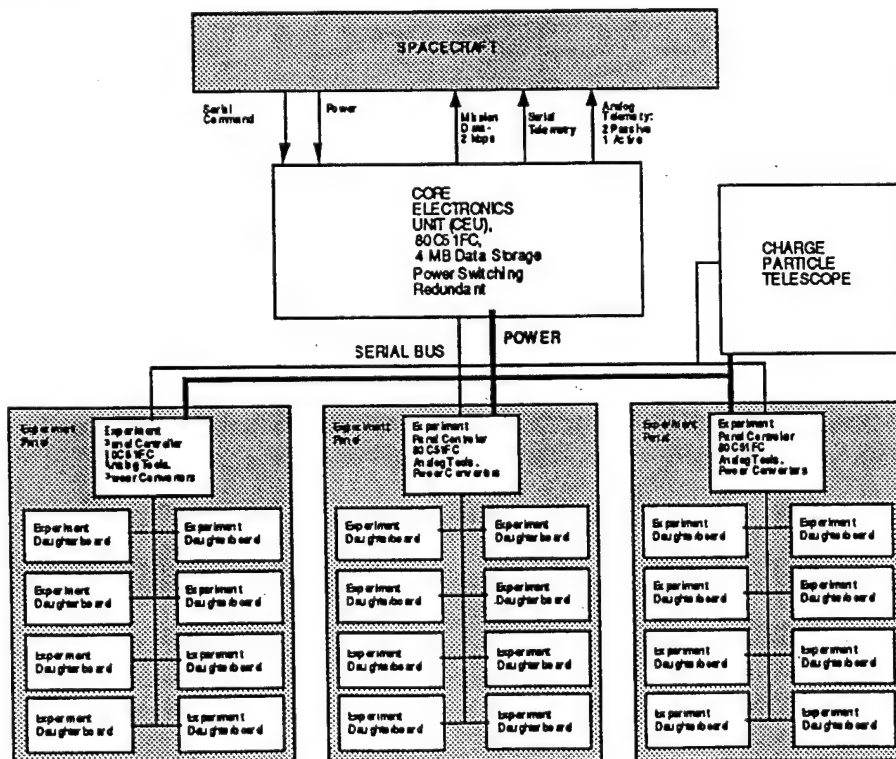

Figure 1 - MPTB Block Diagram
1.3.1 MPTB Experiment Description. MPTB consists of a redundant Core Electronics Unit (CEU), and three experiment panels, each up to eight daughterboard slots. A block diagram is shown in Figure 1.